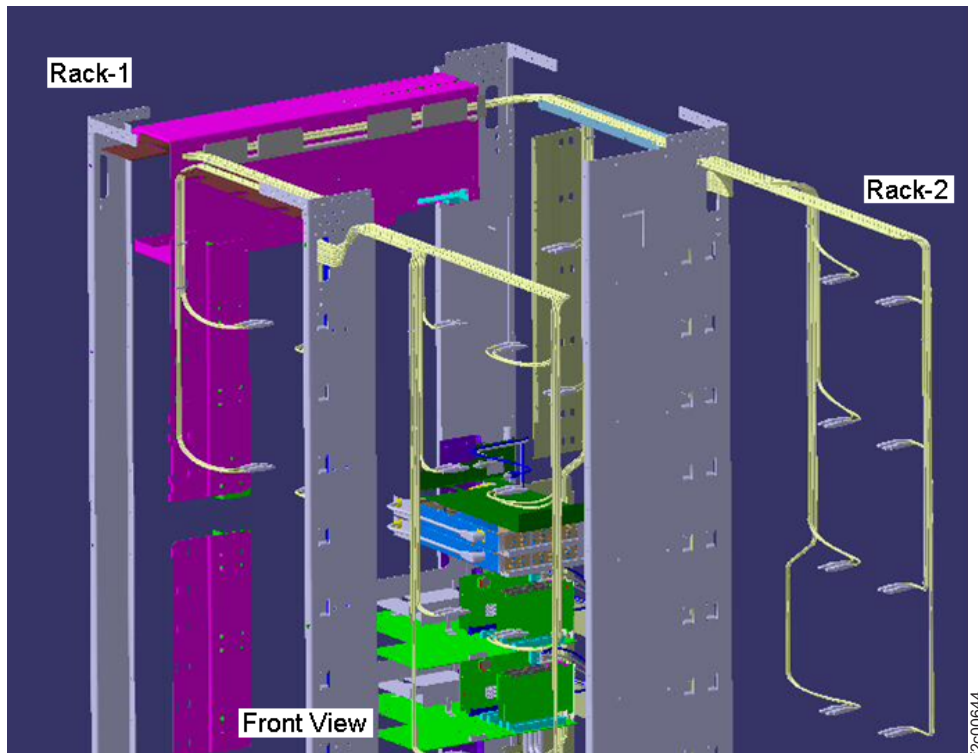

Figure 90. Mechanical routing of the FC-AL cables (rack-to-rack)
- f. For the rack to rack routing of the FC-AL cables, see Figure 90 on page 108.